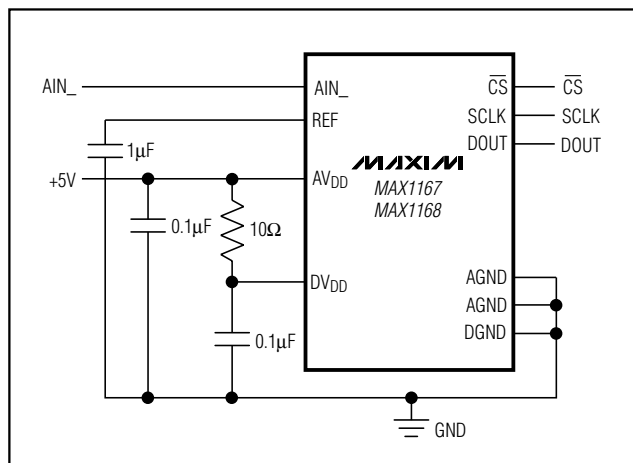

Figure 25. Powering AVDD and DVDD from a Single Supply
Use printed circuit (PC) boards with separate analog and digital ground planes. Do not use wire-wrap boards. Connect the two ground planes together at the MAX1167/MAX1168 AGND terminal. Isolate the digital supply from the analog with a low-value resistor (10Ω) or ferrite bead when the analog and digital supplies come from the same source (Figure 25).